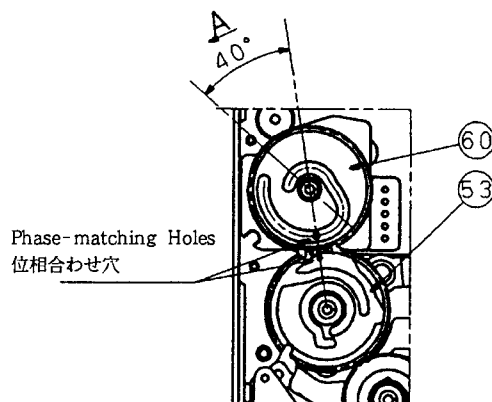

Fig. 3-13
- 1) Remove the three ③i washers, then detach the ⑤⑦ Worm Wheel, ⑤⑧ Center Gear, ⑥⑩ Mode Gear, ⑤③ Mode Cam, and ⑥⑧ Mode Switch, in this order.
**Notes :** • See that the phases of the Mode Gear and the Mode Cam when reinstalling are matched with each other, as shown in Fig. 3-13.
注意 • 組立時の Mode Gear と Mode Cam との位相は、Fig. 3-13 を参照。